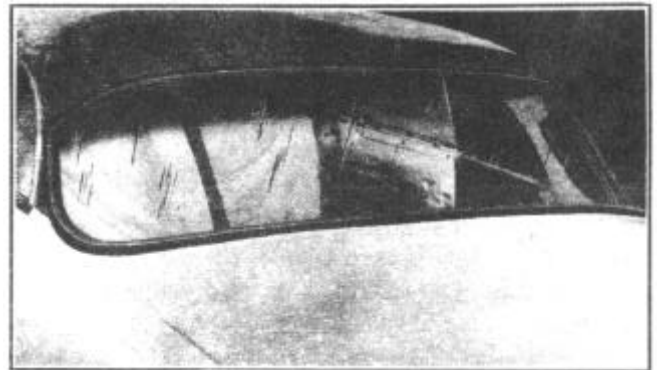

FIGURE 199
10. Install Part No. 228715 Sealing Tape 1/8" thick, 1/2" wide over groove, between weatherstrip and outside body recess completely around the window in a uniform thickness, Figure 199.